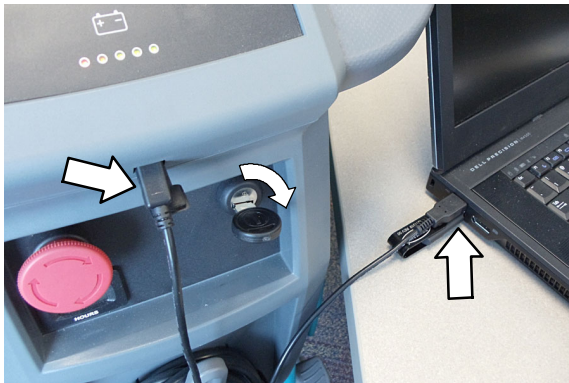

Fig. 15
2. Connect the USB cable to computer and to the USB port on machine as shown. Turn the key switch to the on position (Figure 15).